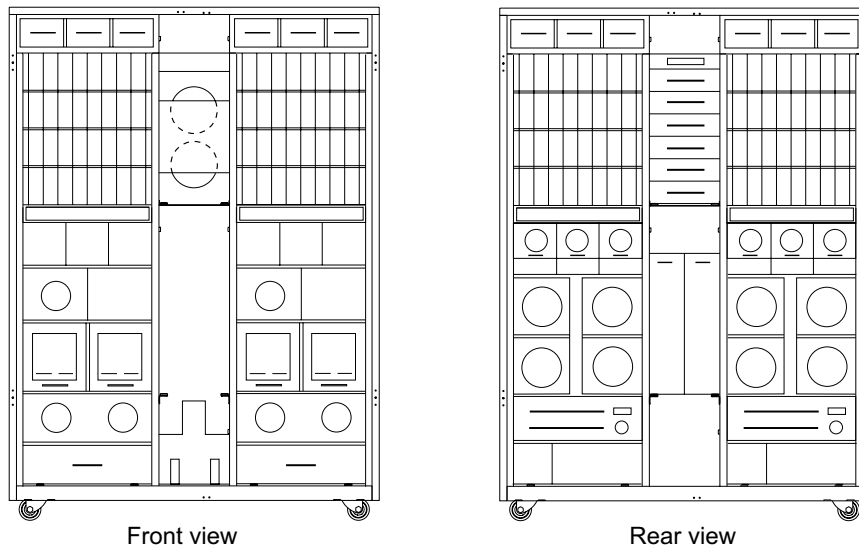
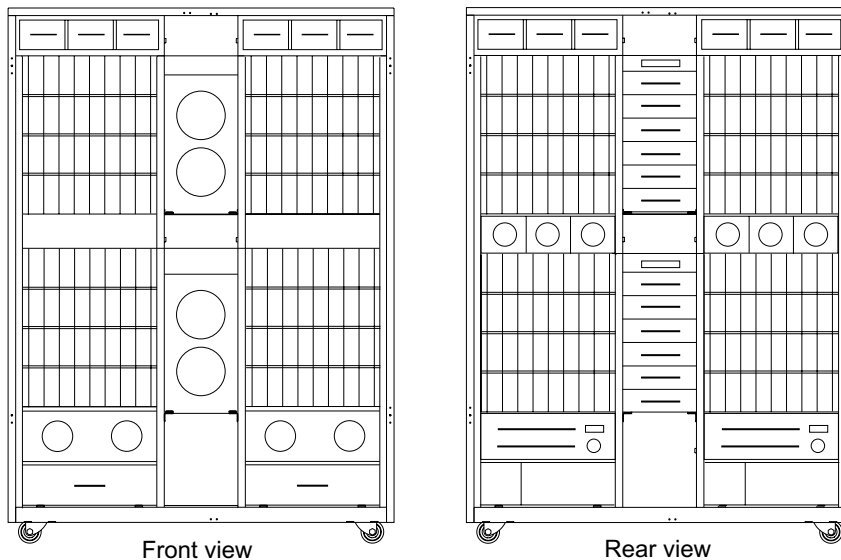

Figure 1. 2105 Model Exx/Fxx Front and Rear Views (s007725m)
Figure 2. 2105 Expansion Enclosure Front and Rear Views (S007726m)
The 2105 Models E20 or F20 with the expansion enclosure provides up to 11 terabytes (TB) of storage capacity, with a choice of 9.1, 18.2, or 36.4 gigabyte (GB) DDMs. See Figure 1 and Figure 2 for illustrations of the 2105 models.